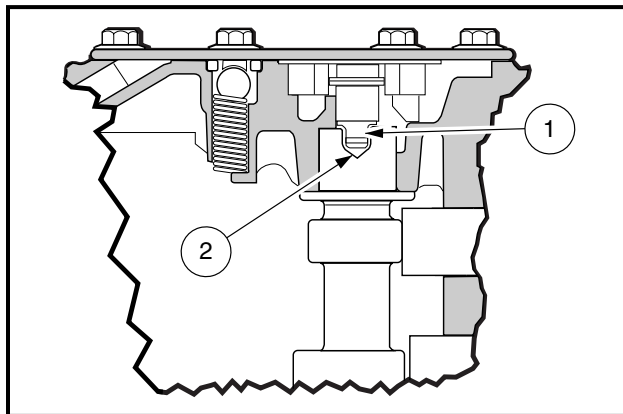

Figure 18-93 Proper Seating of Tang into Camshaft Slot
- When installing the camshaft, make sure that the tang (1) on the oil pump rotor seats in the slot (2) in end of the camshaft (Figure 18-93, Page 18-43). If the oil pump tang is not seated in the slot in the camshaft, serious engine damage will result.